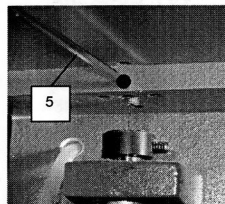

Fig. 4
Using the hexagon wrench (5) supplied, slacken the ceramic guide until it can be rotated. (Fig. 4)